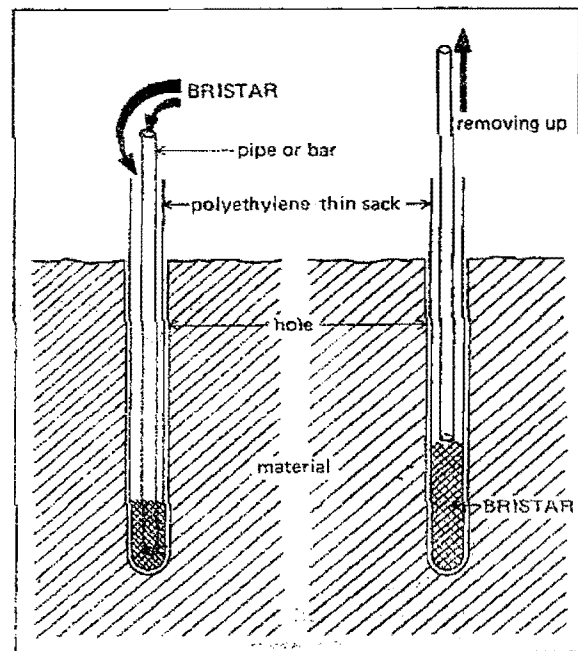

Fig. 8 Use of polyethylene sack in hole
- I. If there is water in the hole, place a polyethylene thin sack equal to the hole diameter into the hole, insert a wooden rod into the bag and then fill BRISTAR into the sack. (See Fig. 8) The BRISTAR in the sack will displace the water in the hole. There is no change in the breaking effect by the use of this kind of sack.
- IV. When the material to be cracked is in water, use the sack indicated in Fig. 8. Try to use the bucket or the pump when filling into the pipe, remove it up, and then tie the sack to avoid BRISTAR filled diluting. If there is no flow of water around an entrance of the hole, BRISTAR may directly be poured into the hole using the pump so on. It should gently displace the water in the hole.